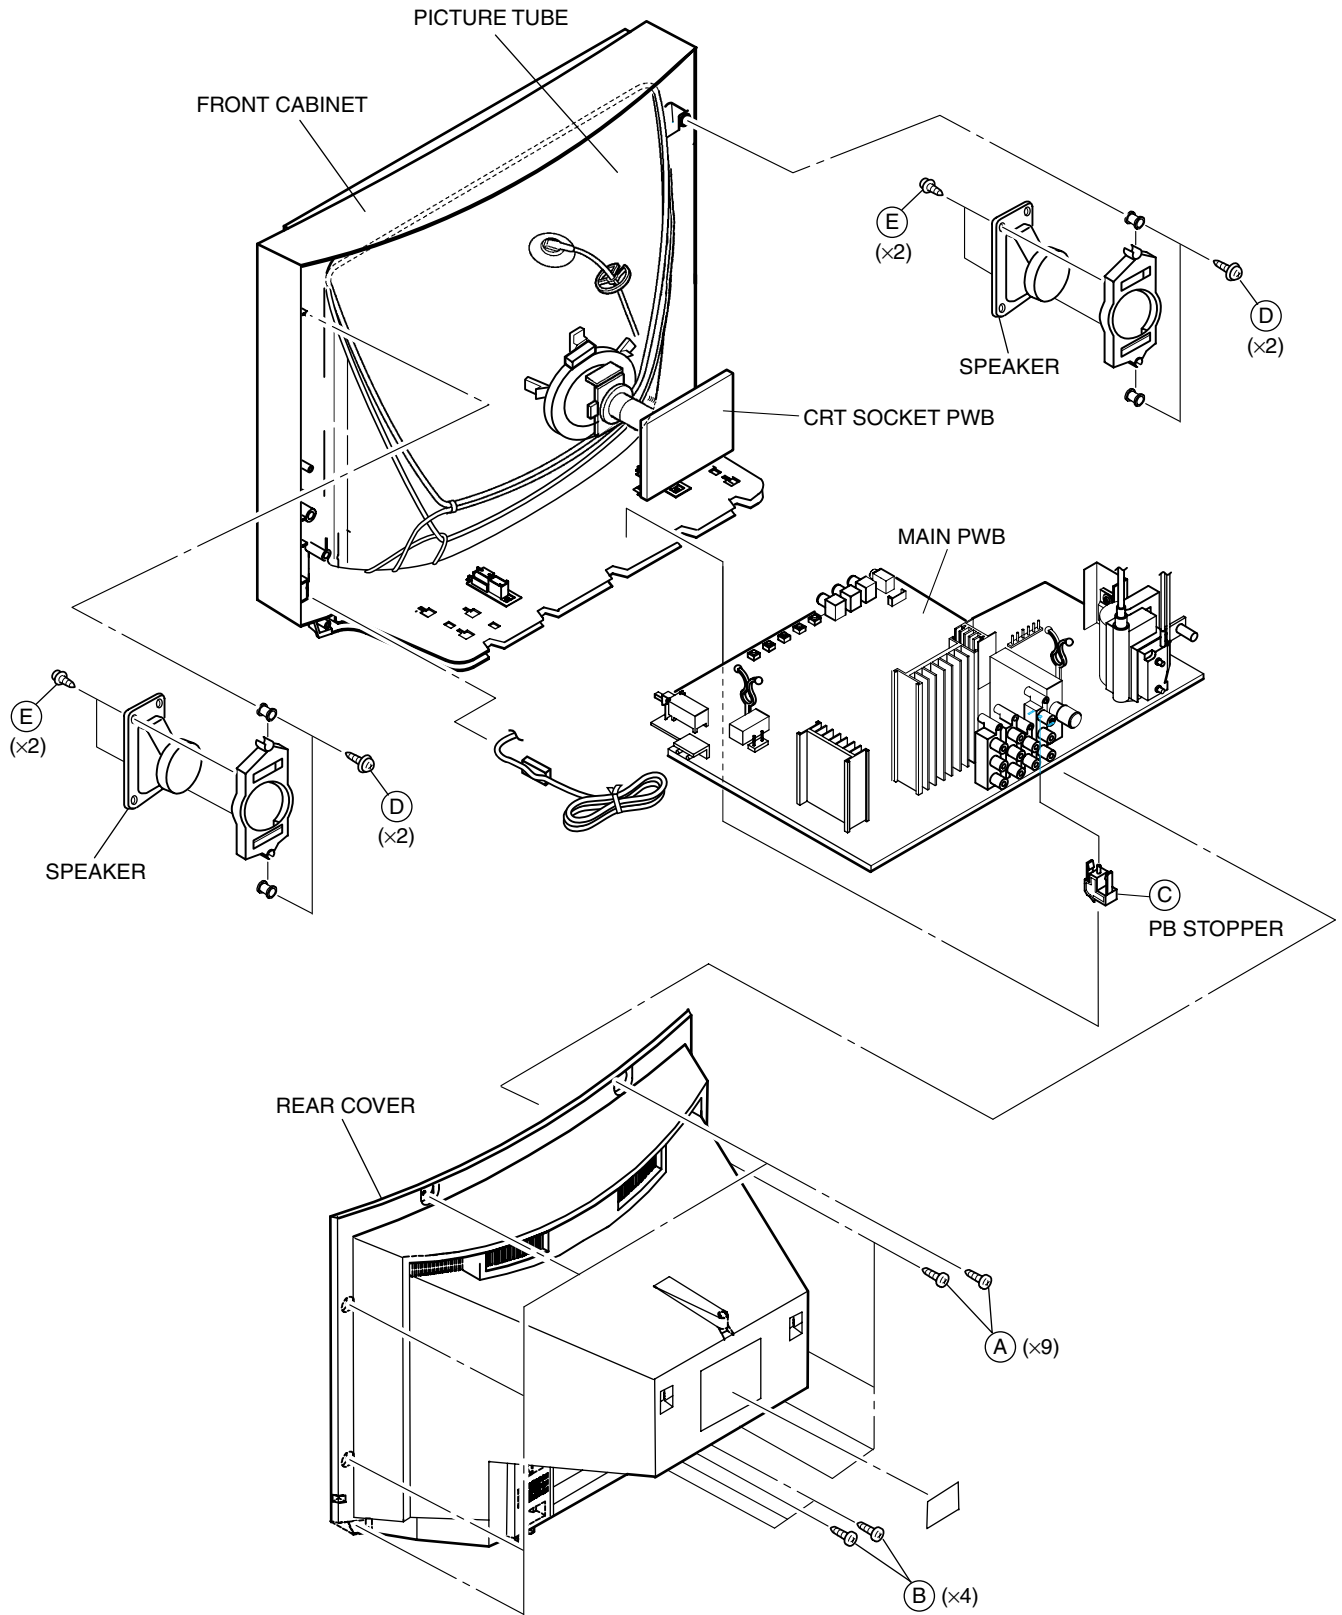

Fig.1
2. Remove the 9 screws marked (A) and 4 screws marked (B) as shown in Fig. 1.
1. Remove the 2 screws marked (D) and 2 screws marked (E) as shown in Fig. 1.